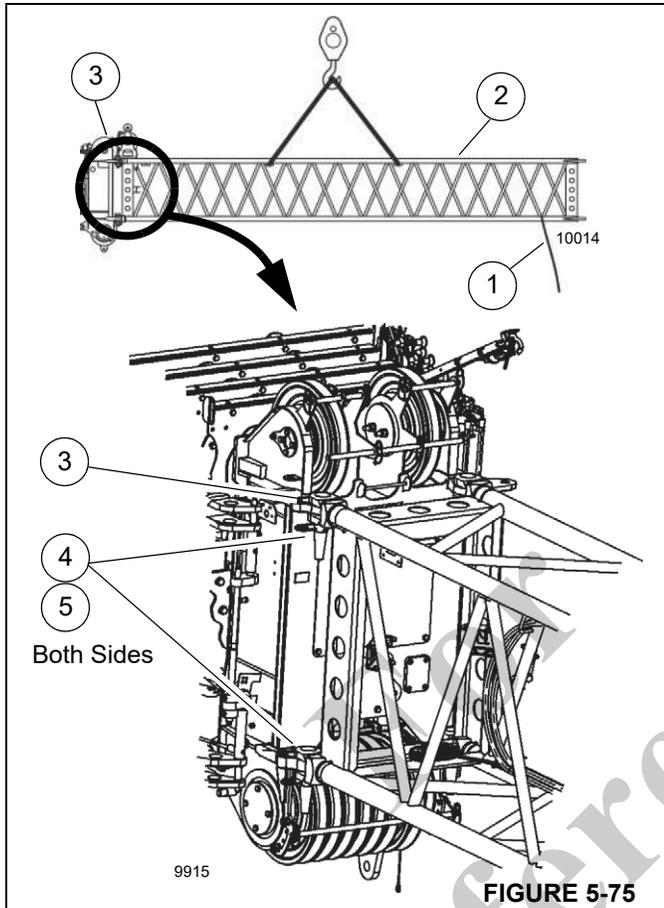

FIGURE 5-75
5. Tie a tag line (1, Figure 5-75) to the end of the lattice insert section (2).
6. Lift the lattice insert in front of the nose of the main boom (3) so the four pin holes align on both sides.
7. Install pins (4) and retaining clips (5).
4. Remove the retaining clips and pins (4 and 5, Figure 5-75) from the connecting points.
5. Insert the pins (4) into the holders. Secure pins (4) with retaining clips (5).
6. Remove the lattice insert (2). Lower the lattice insert on to a stable surface.